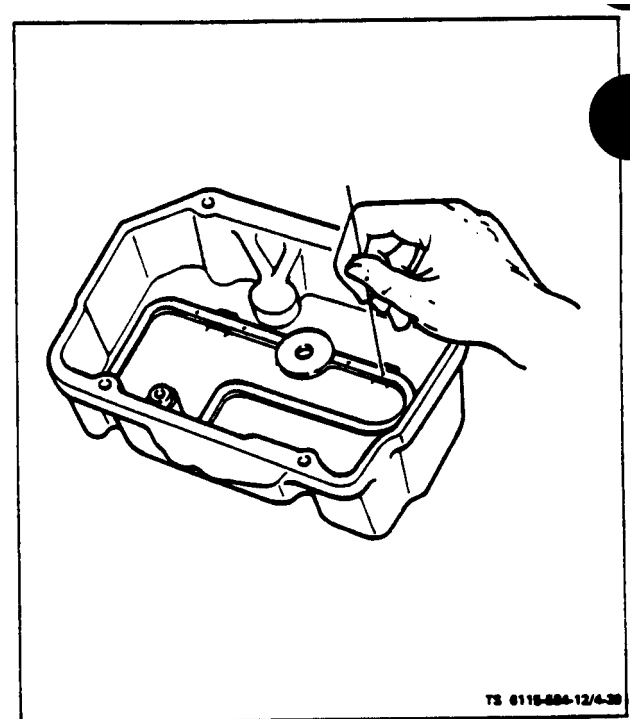

Figure 4-39. Cleaning Rocker Arm Cover Oil Line
c. Service. Every 500 operating hours, remove rocker arm covers and clean oil lines. Flush oil lines with clean diesel fuel and clean small holes with a fine wire. See figure 4-39.